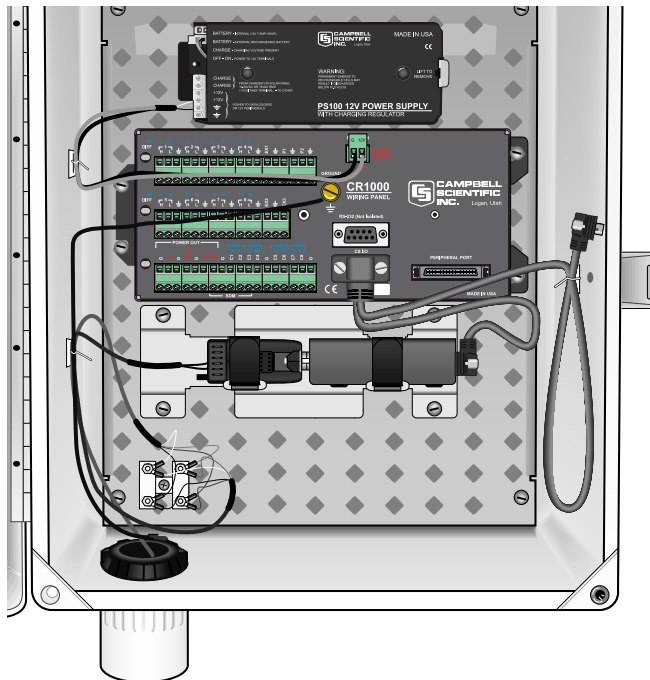

FIGURE 3.3-3. SRM-5A Rad Modem and SC932A Interface
2. Attach the SRM-5A and SC932A mounting bracket to the enclosure backplate using the two screws and nylon inserts provided (Figure 3.3-3).